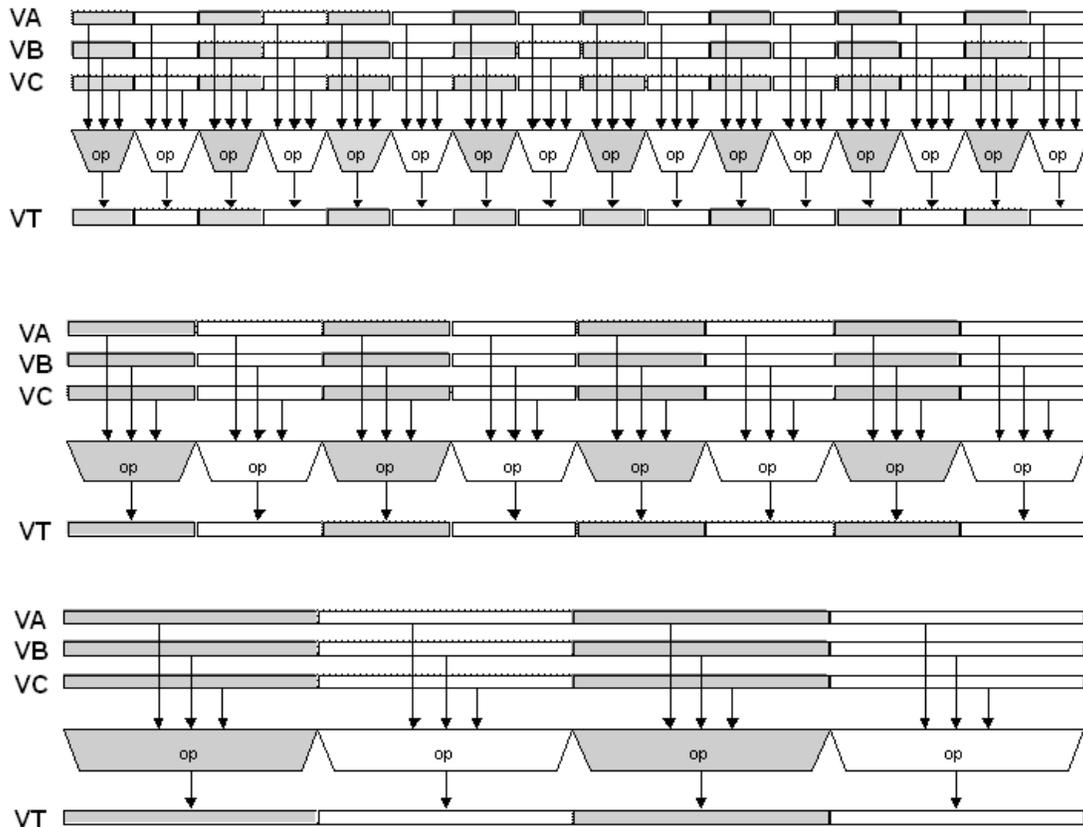

Figure 7. AltiVec Degrees of Parallelism
The new instructions allow vector/SIMD operations on 128-bit wide Vector Registers (VR) through any of the four AltiVec execution units—permute, simple, complex, and float—each of which have 2, 1, 4, and 4 stage pipes, respectively. These 128-bit VRs can be used as single 128 bit quantity, but also to provide varying levels of parallelism to give a maximum of 16 operations per instruction on 8 bit quantities or, to put into a more comparable format, four 32-bit integer-based operations per instruction. These different levels of parallelism—16x8 bit, 8x16 bit, or 4x32 bit—can be seen in Figure 7.